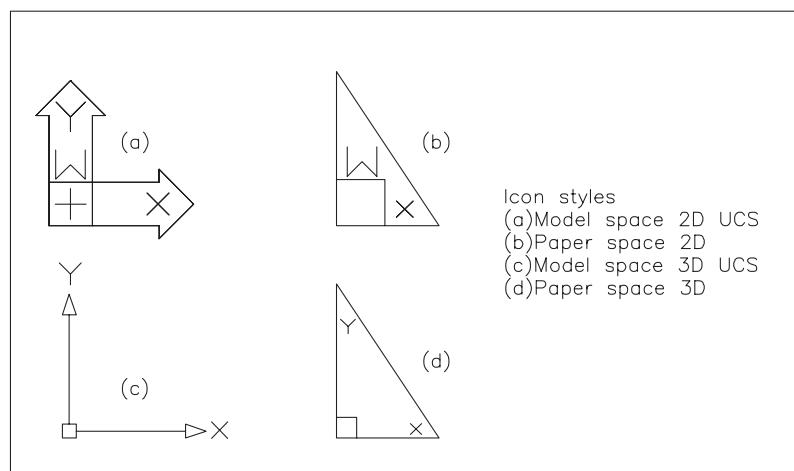

Figure 33.1 The model space and paper space icons.
- d) the model space and paper space icons are shown in Figure 33.1